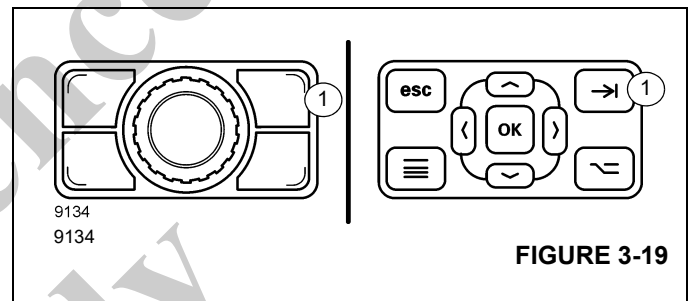

FIGURE 3-19
2. Press the upper right button (1, Figure 3-19) on the jog dial panel or the control panel.